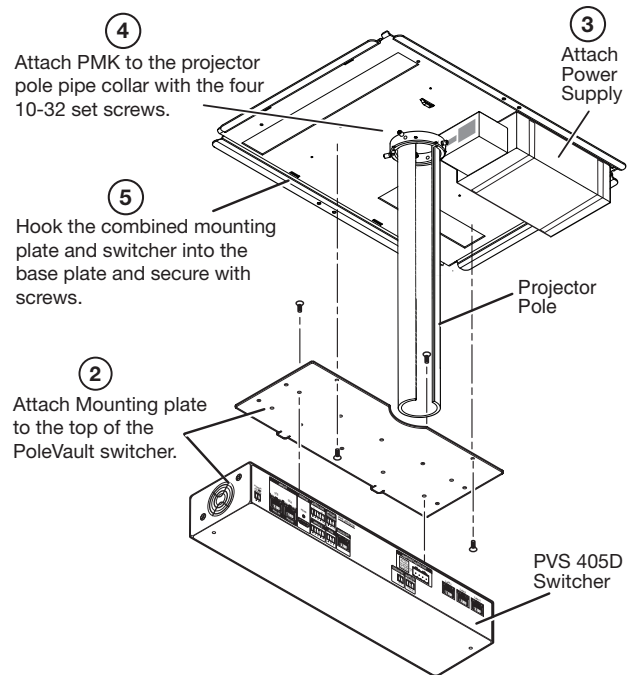

Figure 2. Attach the mounting plate to the switcher and secure both to the base plate.
2. To mount the PoleVault switcher, place the mounting plate, with the raised tabs upwards, on the top surface of the switcher and pass the two supplied 4-40 x 3/16 inch screws into the top of the switcher (see figure 2, ②). Secure the mounting plate but do not overtighten.
3. Attach the associated power supply to the base plate with the supplied tie wraps and pads, by passing them through the appropriate slots and around the power supply (see figure 2 ③). Tighten until snug.
4. Loosen the four pipe collar set screws (see figure 2 ④), and slide the base plate up the pipe until it is touching the suspended ceiling.
6. Hook the combined plate and switcher into the PMK 560 base plate (see figure 2, ⑤). Secure it to the base plate with two screws.